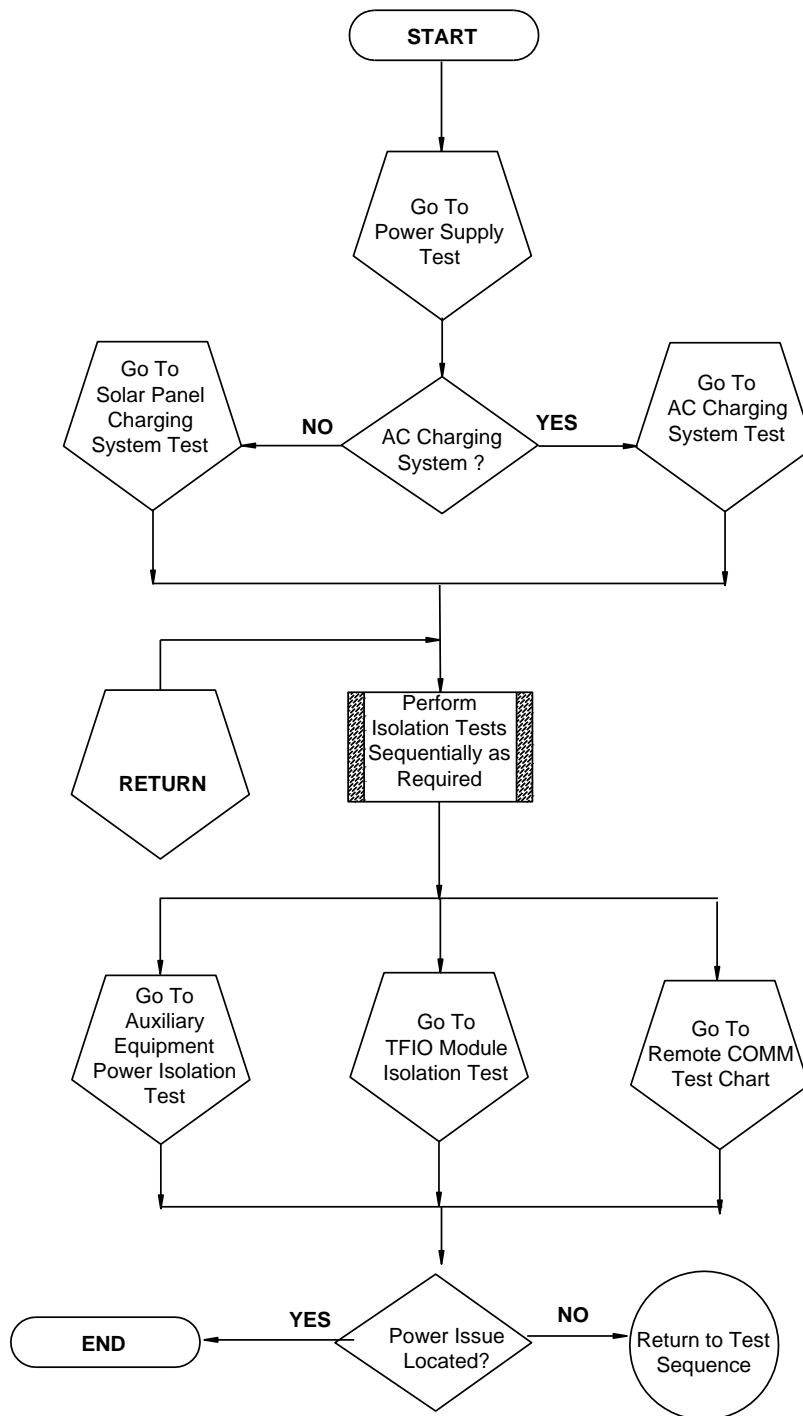

Figure 97: Power Troubleshooting Flowchart
**IMPORTANT NOTE:** Notice that the *Power Troubleshooting Flowchart* (Figure 97:) takes the user through several tests but also directs the user to the *Communication Troubleshooting Flowchart* located further in this chapter.
11. Compare the voltage. If the charging source voltage is less than (+) 0.4 Vdc higher than the battery voltage, return to Figure 97: and continue.
16. Return to the Power Troubleshooting Flow Chart (Figure 97:), if power drain has not been located.